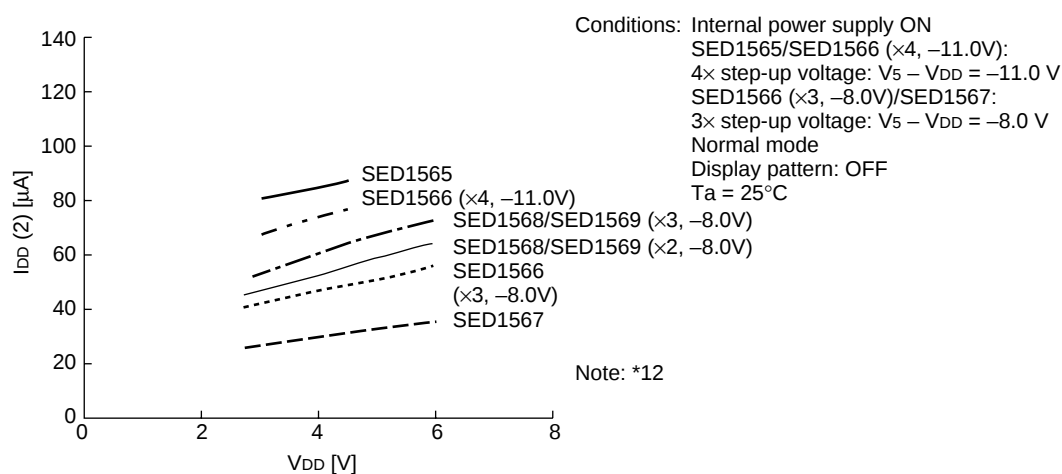

Figure 33
- *2 The operating voltage range for the V_{DD} system and the V_5 system is as shown in Figure 33. This applies when the external power supply is being used.
- *3 The A0, D0 to D5, D6 (SCL), D7 (SI), RD (E), $\overline{WR}$ (R/ $\overline{W}$), $\overline{CS1}$, CS2, CLS, CL, FR, M/S, C86, P/S, $\overline{DOF}$, $\overline{RES}$, IRS, and $\overline{HPM}$ terminals.
- *5 The A0, RD (E), $\overline{WR}$ (R/ $\overline{W}$), $\overline{CS1}$, CS2, CLS, M/S, C86, P/S, $\overline{RES}$, IRS, and $\overline{HPM}$ terminals.
- *6 Applies when the D0 to D5, D6 (SCL), D7 (SI), CL, FR, and $\overline{DOF}$ terminals are in a high impedance state.
- *7 These are the resistance values for when a 0.1 V voltage is applied between the output terminal SEGn or COMn and the various power supply terminals (V_1 , V_2 , V_3 , and V_4). These are specified for the operating voltage (3) range.